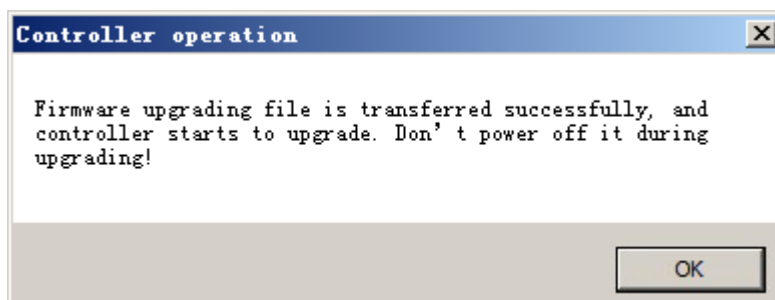

Figure 69 The Prompt box for Transmission of Firmware File
Step 3. A prompt box as shown in Figure 69 popped up. Click **OK** to start upgrade.